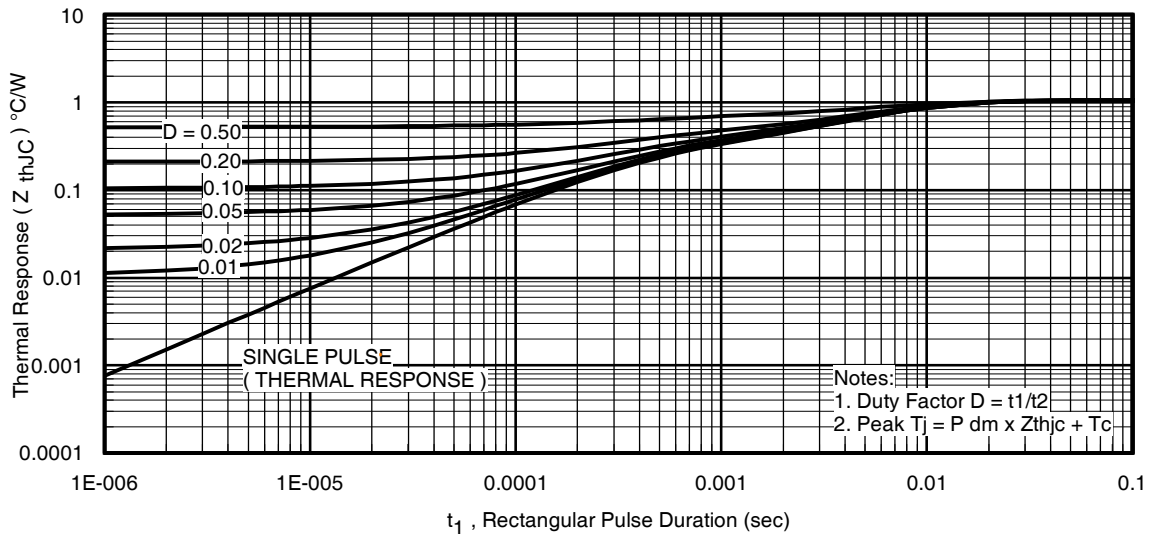

Fig 11. Maximum Effective Transient Thermal Impedance, Junction-to-Case
- ① Repetitive rating; pulse width limited by max. junction temperature. (See fig. 11).
- ② Limited by T_{Jmax} , starting $T_J = 25^\circ\text{C}$, $L = 0.399\text{mH}$, $R_G = 25\ \Omega$, $I_{AS} = -37A$, $V_{GS} = -10V$. Part not recommended for use above this value.
- ③ Pulse width $\leq 1.0\text{ms}$; duty cycle $\leq 2\%$.
- ④ $C_{oss\ eff.}$ is a fixed capacitance that gives the same charging time as C_{oss} while V_{DS} is rising from 0 to 80% V_{DSS} .
$Z_{thJC}(D, t_{av})$ = Transient thermal resistance, see figure 11)